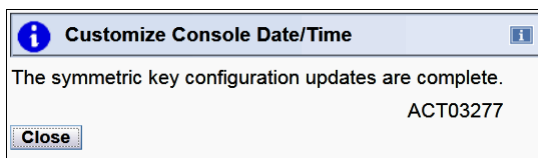

Figure 8-17 Completed message for symmetric key configuration
7. The completion window opens (see Figure 8-17). Click **Close** to return to the Configure NTP Settings window.